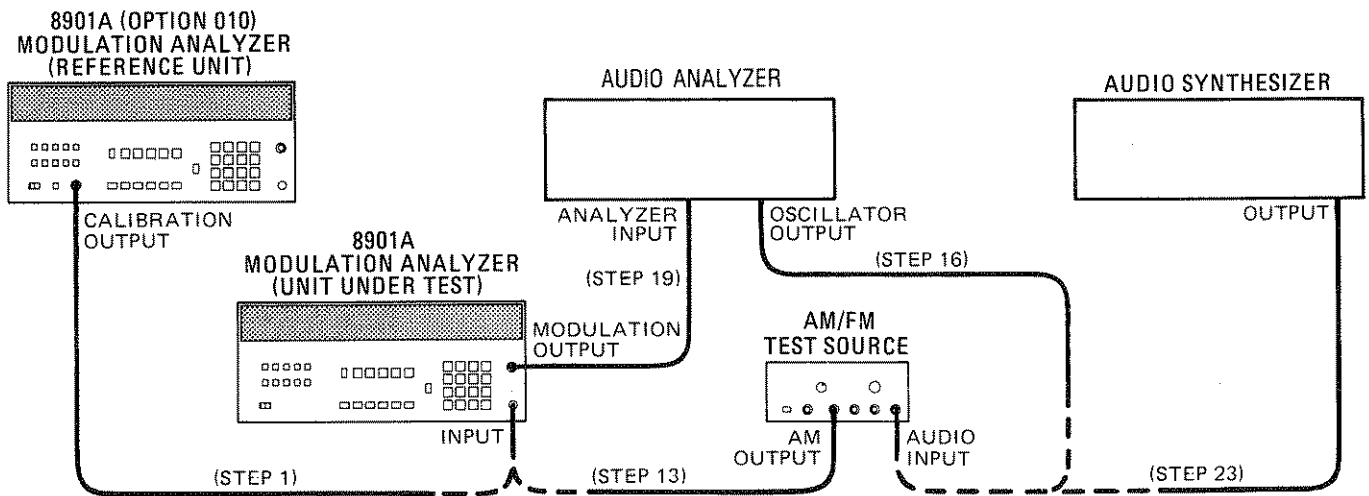

Figure 4-2. AM Performance Test Setup (Using a Second HP 8901A Equipped with Option 010)
- 13. On the AM/FM test source, set the test mode switch to AM. Connect the test source AM output to the INPUT of the Modulation Analyzer under test. (See figure 4-2. Nothing should be connected to the test source's audio input.)
- 16. Set the audio analyzer's source to 20 kHz. Connect its output to the audio input of the AM/FM test source (see figure 4-2).
- 19. Connect the audio analyzer's input to the MODULATION OUTPUT of the Modulation Analyzer under test. (See figure 4-2.) Set the audio analyzer to measure the distortion on the 20 kHz signal at the MODULATION OUTPUT with 80 kHz of low-pass filtering (on the audio analyzer). The distortion should be 0.3% or less (-50.5 dB or less).
23. Set the audio synthesizer to 1 kHz at +5 dBm. Connect its output to the audio input of the AM/FM test source. (See figure 4-2.) Fine adjust the audio synthesizer level for a Modulation Analyzer under test display of 80% AM.